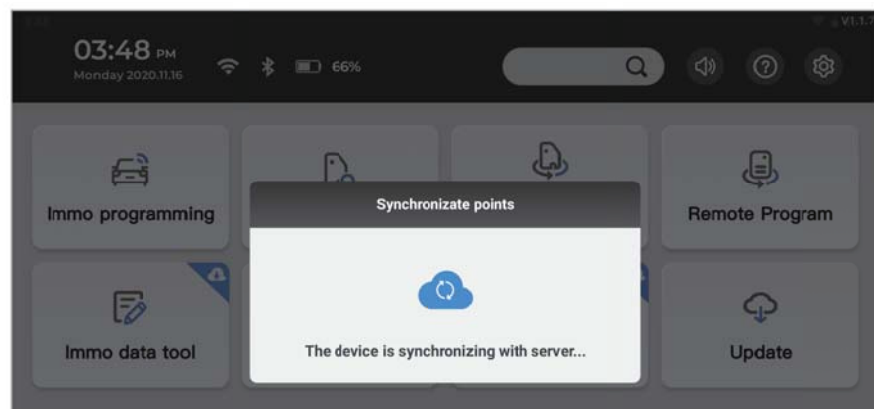

Fig.4.1.8
**Synchronization:** Users can synchronize tokens and collect bonus points. See Fig. 4.1.8